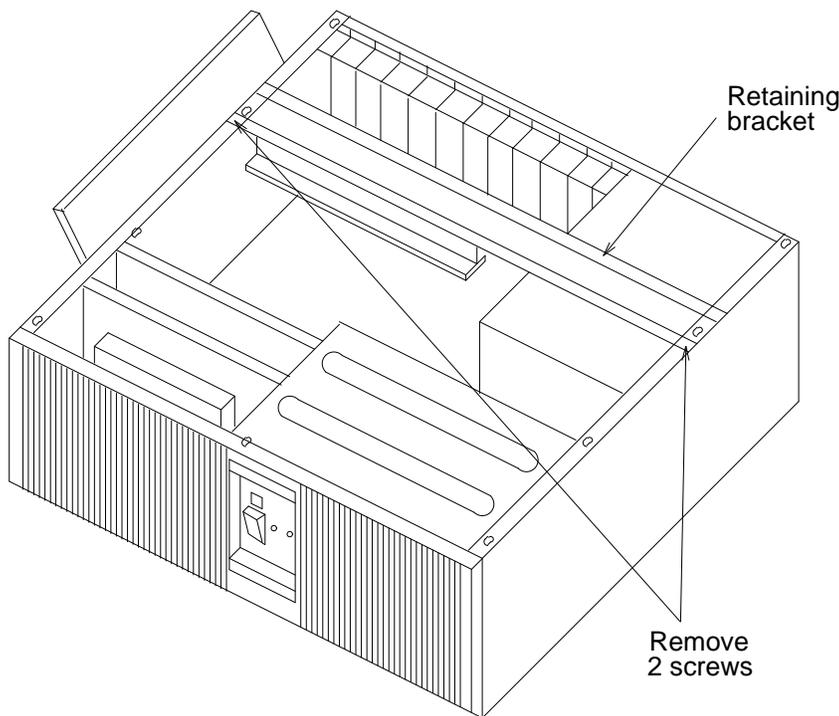

Figure 4-9. Removing Screws in the Retaining Bracket.
1. Use a Phillips #2 screwdriver to loosen and remove the two screws in the retaining bracket (Figure 4-9).
2. Remount the circuit card cage retaining bracket across the circuit cards using two screws (Figure 4-9). Leave the two screws only partially tightened to provide adequate clearance for the access panel.